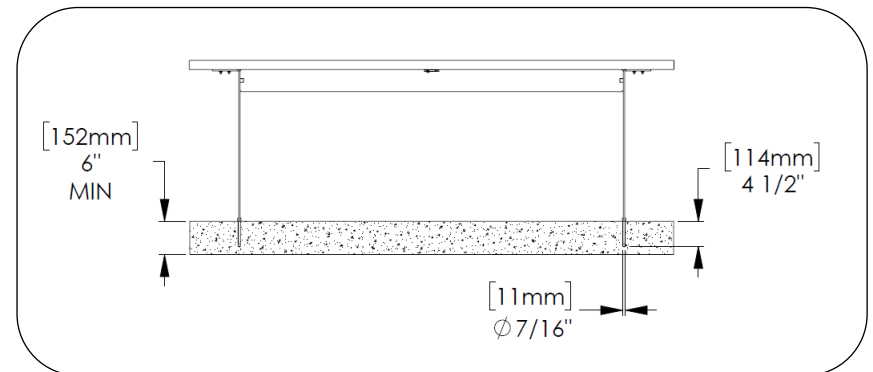
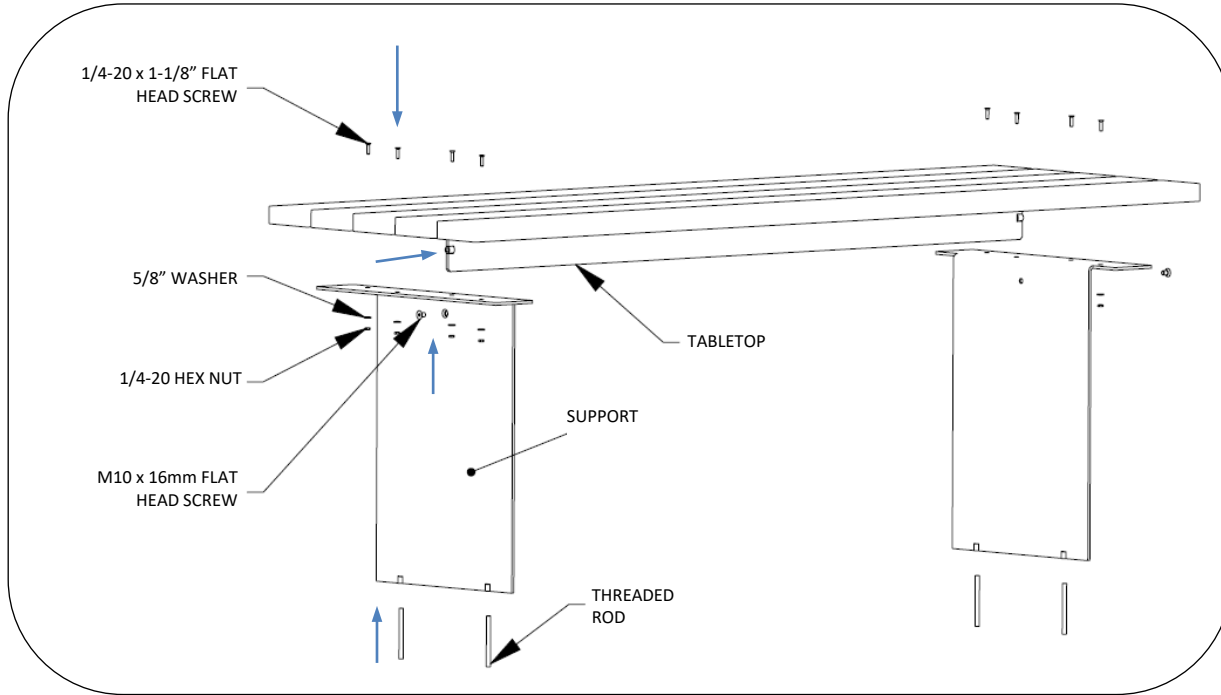

Fig. 1 – Drilled hole size, support orientation
Fig. 2 – Assemble table
1. Orient supports as shown in Fig. 1. From the top side, install (4) 1/4-20 x 1-1/8" flat head machine screws per support between boards as shown in Fig. 2.
2. Install washers and nuts on underside of supports, see Fig. 2. Keep hardware loose.
3. Install M10 flat head screw on each side of cross brace, securing support to cross brace as shown in Fig. 2. Fully tighten.
2. Drill holes as shown in Fig. 1. Clear holes of debris.
3. Install threaded rods into supports, see Fig. 1.